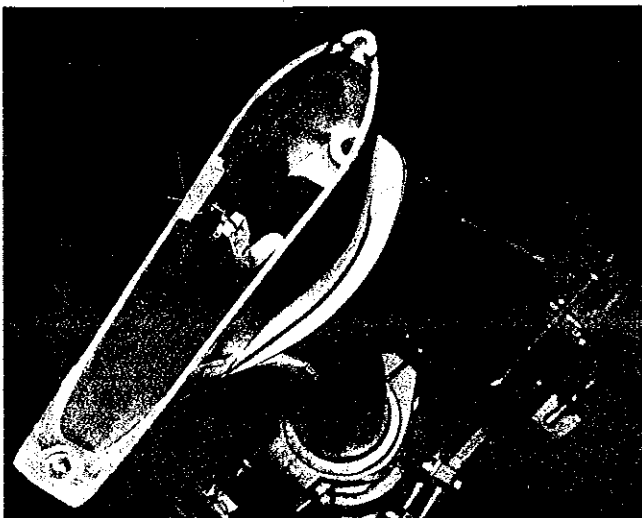

Figure 8. Tie back column link rod.
- A. Use a piece of wire to tie back the column link rod (Figure 8).